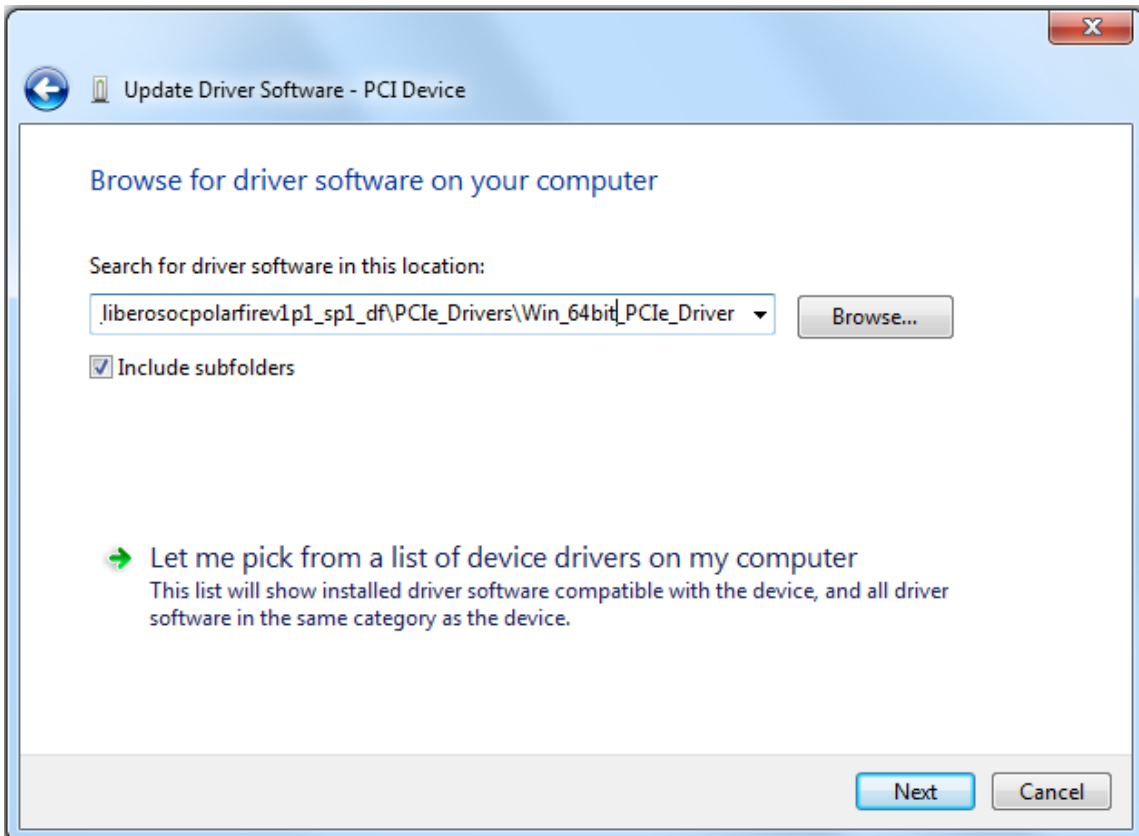

Figure 27: Driver Installation - Browse for Driver Software cont.
3. Browse the driver's folder and click **Next** as shown in Figure 27: mpf_dg0756_liberosocpolarfirev2p1_df\PCIe_Drivers\Win_64bit_PClE_Driver.